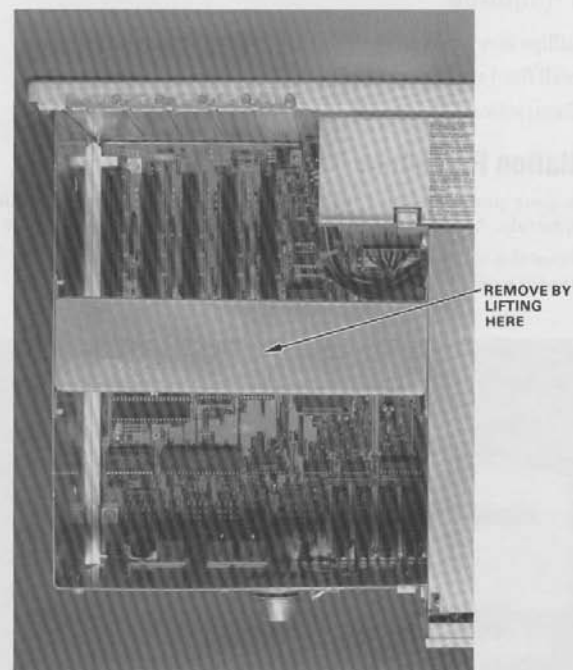

Figure 5. Inside the Tandy 1000SX
3. Remove the bracket shown in Figure 5 by lifting it straight up and off.